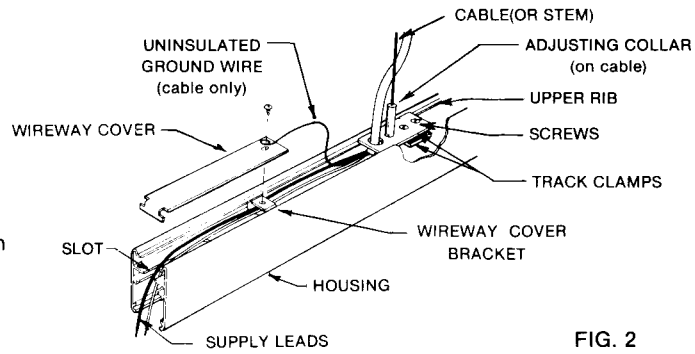

FIG. 2
4. Tighten screws in TRACK CLAMPS of cables or stems after HOUSING installation is completed, see Fig. 2
3. Tighten screws in TRACK CLAMPS of cables or stems after HOUSING installation is completed, see Fig. 2.